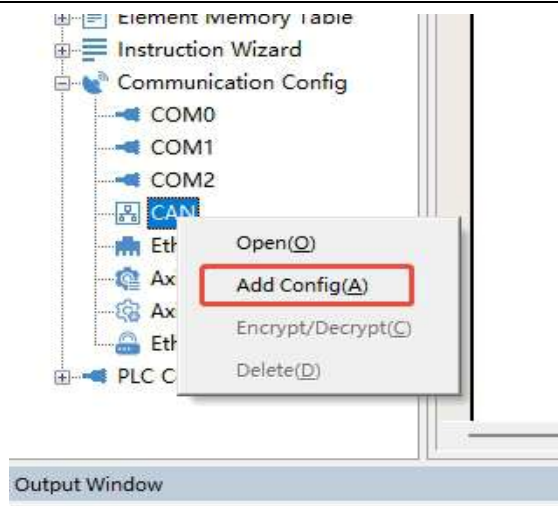

Figure 3-11 Add CAN Configuration
Step 3: Right-click the “CAN” and select Add Configuration, as shown in Figure 3-11.